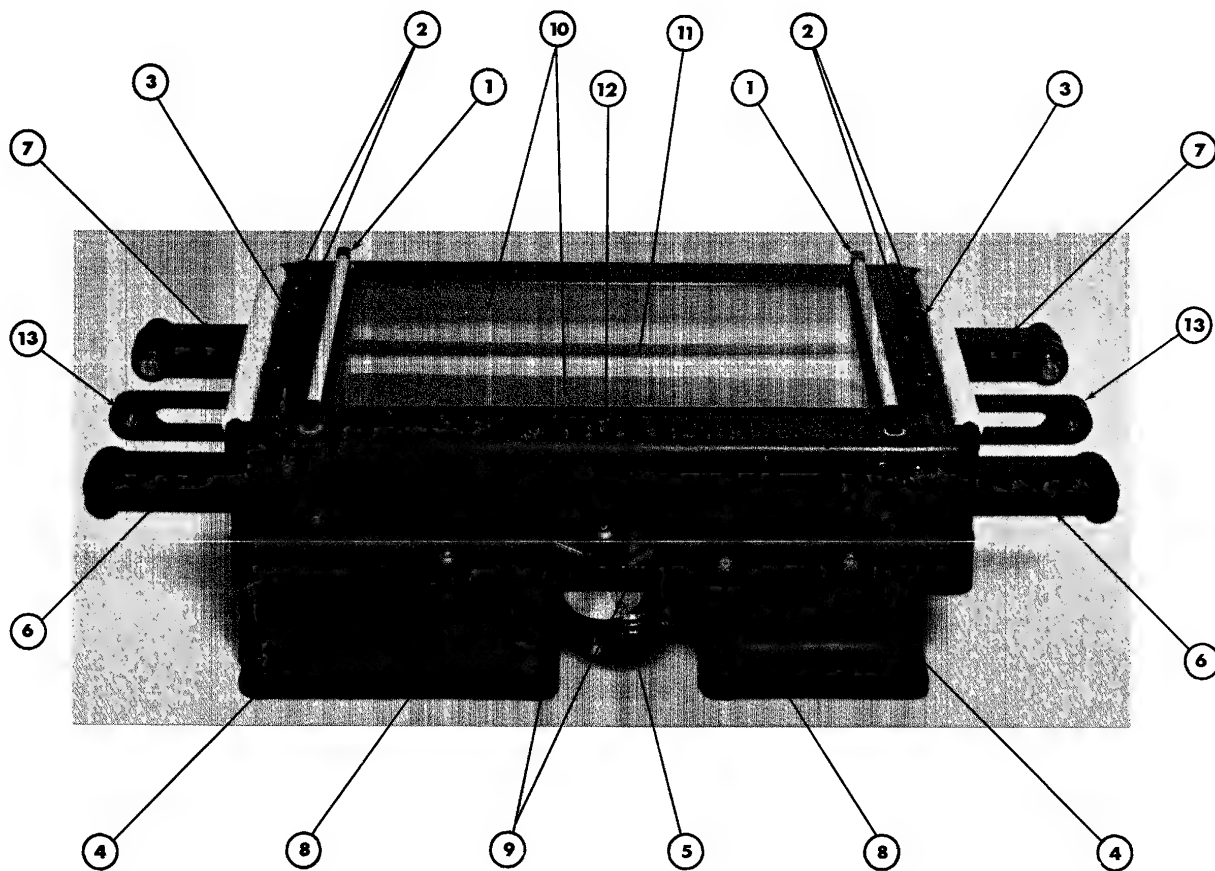

FIG. 2 TILT TABLE
1. Turn the Bottom Film Transport handle counterclockwise (#8, right hand, Figure 2) until it hits the inner stop. Lock the brake (#9, Figure 2).
2. Turn the Top Film Transport handle clockwise (#8 left hand, Figure 2) until it hits the inner stop. Lock the brake (#9, Figure 2).
3. Position the Center Shade (#3, Figure 2) in the center of the viewing area.
4. Install the Center Film Arms (#13, Figure 2).
1. Turn the Bottom Film Transport handle clockwise (#8 right hand, Figure 2) until it hits the outer stop. Lock the brake (#9, Figure 2).
2. Turn the Top Film Transport handle counterclockwise (#8 left hand, Figure 2) until the inner edge of the film arm lines up with the 5" film marker on the Light Table. Lock the brake (#9, Figure 2).
2. Turn the Top Film Transport handle counterclockwise (#8 left hand, Figure 2) until the inner edge of the film arm lines up with the 9.5" film marker on the Light Table. Lock the brake (#9, Figure 2).
3. Position the Center Shade (#3, Figure 2) to the extreme upper edge of viewing area.
4. Remove center film arms (#13, Figure 2) if installed.
The Light Table is equipped with shades. The function of the shades is to mask out the area of the light source not being used. When film is viewed which does not cover the entire viewing surface, the shades (#10, Figure 2) may be drawn by pulling up on the knobs (#2, Figure 2) and sliding the shades to the desired position.
When two rolls of film are viewed, the center strip between the two rolls of film may be shaded by using the center shade (#11, Figure 2). This can be done by unscrewing the knobs (#3, Figure 2) and sliding the shade to the desired position and securing the knobs.
Also the Light Table can be tilted about its front edge from horizontal to a position of 45° by turning the hand crank (#5, Figure 2).
The film drive mechanism is hand operated by means of either of two cranks (#4, Figure 2) on the front side, or by a single crank on the back of the Light Table.
Although the film drive mechanism is hand operated, the clutch-brake units operate only when power is applied to the desired unit. A clockwise rotation of one of the front hand wheels (#4, Figure 2) will transport film from left to right when operating with the "DIRECTION" switch in the  same mode. When the "DIRECTION" switch is changed  the direction of the top roll of the film changes as indicated by the direction markers on the switch. The whole film transporting can be reversed by reversing the direction of rotation of the hand crank to counterclockwise.
A two-speed mechanical gear shift (#12, Figure 2) is provided to switch the film transporting mechanism from low speed to high speed. When the gear shift knob (#12, Figure 2) is retracted, all the way out, the film transporting system is in high speed.